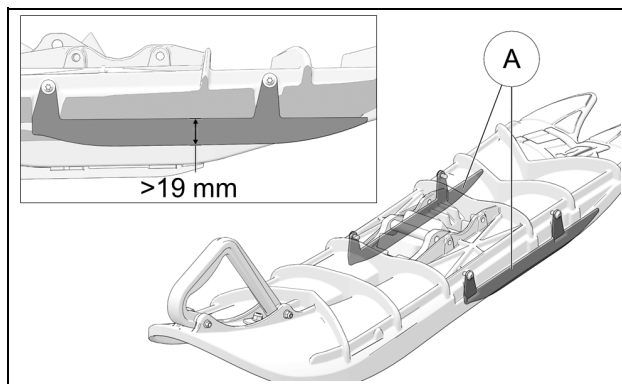

Figure 68
Verify the Side runners (A) mounted on the ski. If they show rounded edges, they should be re-sharpened. Replace part if the height of a runner is under 19 mm (25mm when new). See Figure 68.